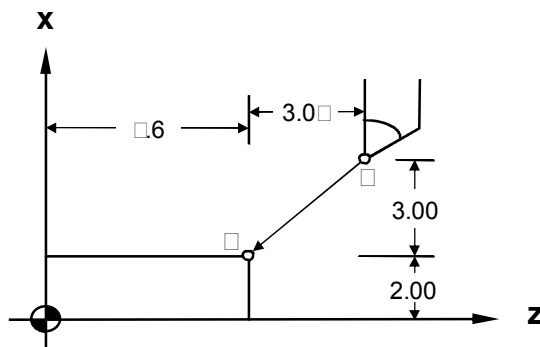

Fig. 3-2 G00 Programming Example
**Example:** Fig 3-2, A point moves to B point rapidly.
Fig. 3-2 assuming that the “Highest Feed-rate” is: